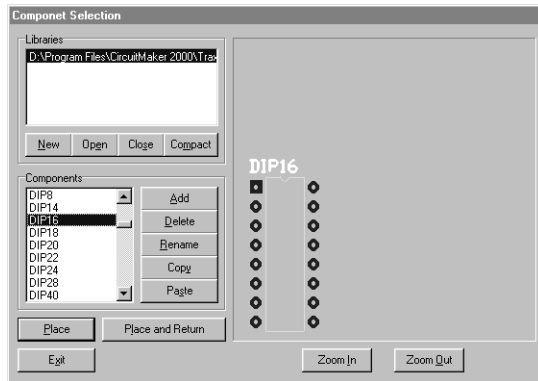

Figure 3.5 . Use the Component Selection dialog box to choose and place a component.
- 2 Scroll through the **Components** list box, pictured in Figure 3.5, until you find the **DIP16** package, then select it.